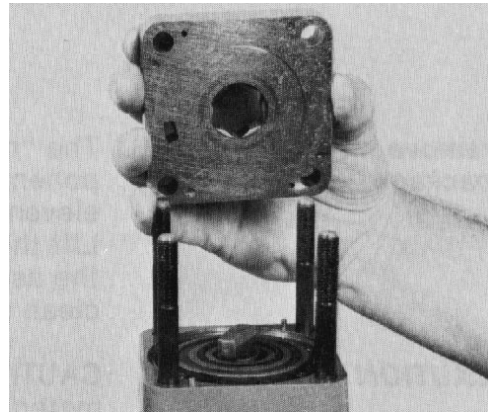

Figure 39
19. Remove the isolation manifold (four plates bonded together) (Fig. 39).